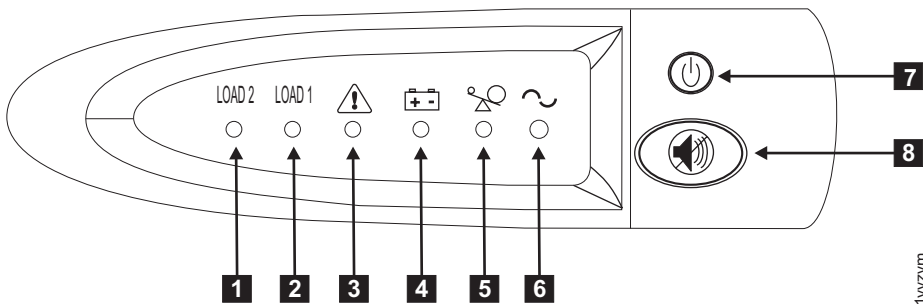

Figure 17. 2145 UPS-1U front-panel assembly
8. Press and hold the on/off button (**7** in Figure 17) for approximately five seconds. You might need a pointed device, such as a screwdriver, to press the on/off button. The front panel indicators cycle through a startup sequence while the 2145 UPS-1U conducts a self-test.